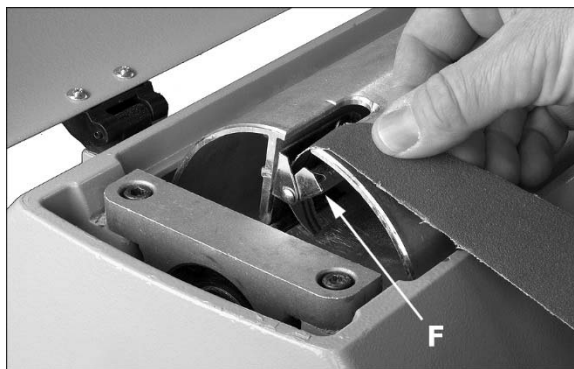

Figure 5
1. Press fastener lever (F, Figure 5) on outboard (left) end of drum, and insert tapered end of abrasive through slit in fastener, as shown. Insert approximately 3-inches of abrasive strip into fastener. Align tapered edge of abrasive strip with left edge of drum.